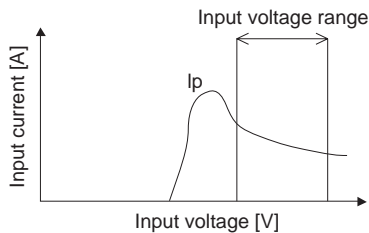

Fig.3.2 Input Current Characteristics
■Choose a front end power supply that can supply enough current  $I_p$  (Fig. 3.2) for starting up the power module.